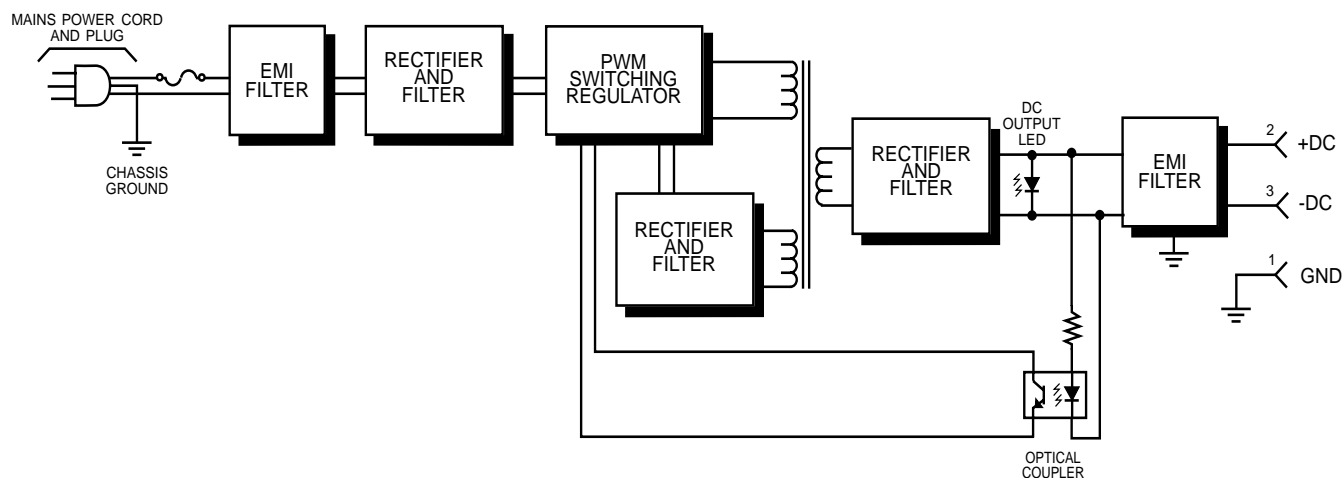

Figure 4 Model 713 Power Supply block diagram.
**5.1 GENERAL** The circuit description is intended to familiarize you with the Model 713 for engineering and applications use. Repairs to the unit should not be attempted as they will expose you to dangerous voltage levels. Please refer to the block diagram, Figure 4 (on page 4), when reading this technical description.